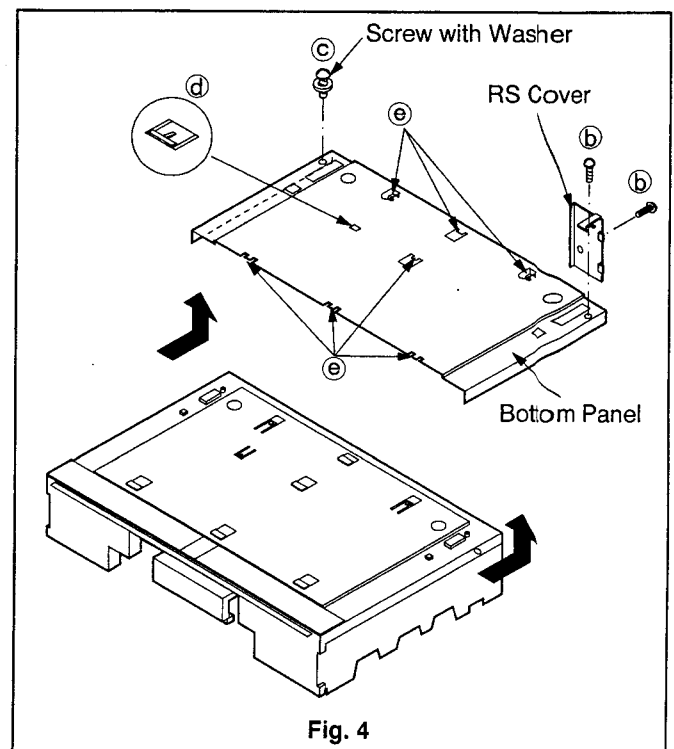

Fig. 4
3. Turn the set upside down as shown in Fig. 4.
4. Unfasten the two RS Cover fastening screws (b) shown in Fig. 4 and remove the RS Cover.
5. Unfasten the one Bottom Panel fastening screws (c) shown in Fig. 4